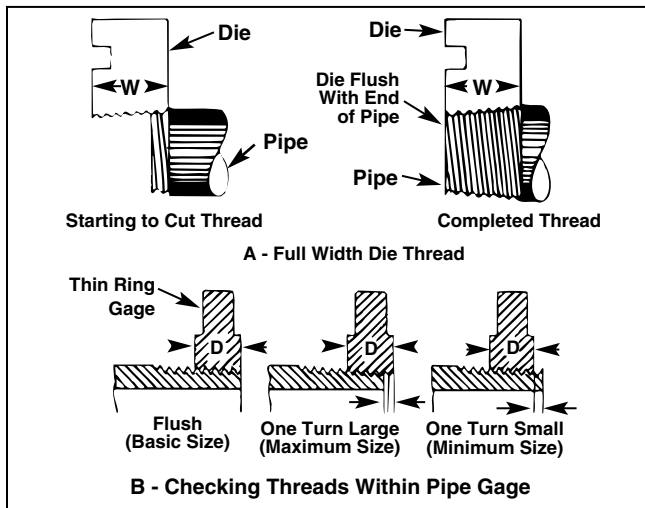

Figure 11 – Checking Thread Length
(Figure 11)
1. Thread is cut to proper length when end of pipe is flush with edge of dies (Figure 11).
2. Die head is adjustable to obtain proper thread diameter. If possible, threads should be checked with a thread ring gage (Figure 11). A proper thread is cut